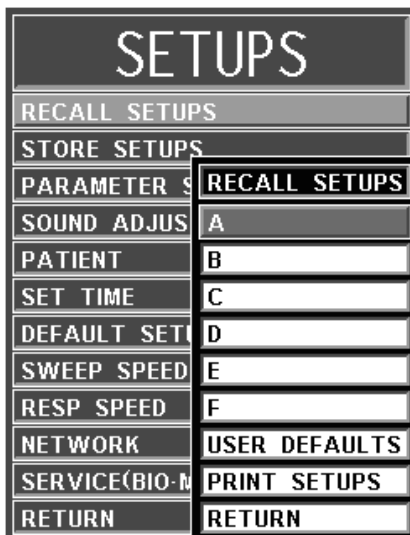

Figure 3-2. The RECALL SETUPS Menu
- (1) **Recall Setups.** To select this menu option, turn the Rotary Knob until the **RECALL SETUPS** option is highlighted, then press the Rotary Knob to select. Selecting this menu option will bring up the **RECALL SETUPS** submenu and allow the operator to Recall a previously stored Monitor Setup (See Figure 3-2). *This menu has a time-out feature. If no action is taken for approximately 60 seconds, the monitor will automatically return to the Normal Screen.*